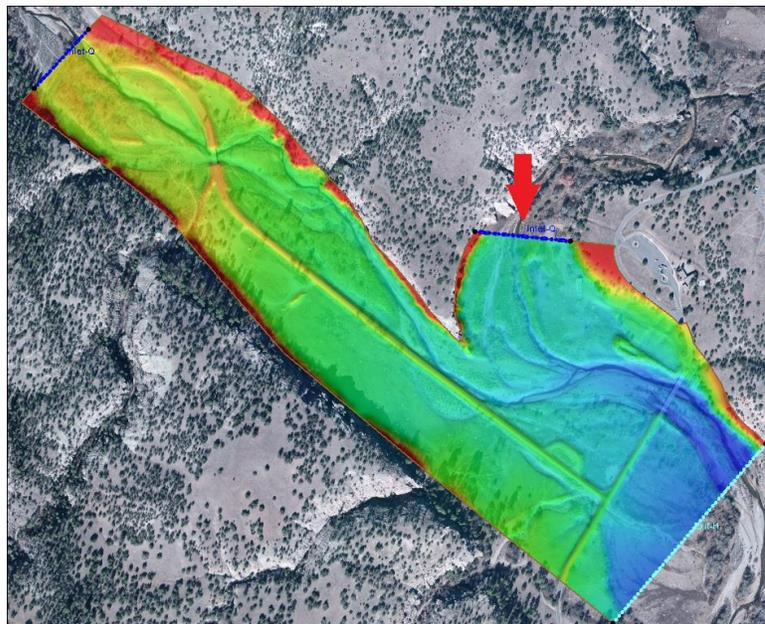

Figure 2 Inflow boundary condition
3. Use the **Select Feature Arc** tool and double-click on the Inlet-Q inflow boundary shown in Figure 2. This will open the *SRH-2D Linear BC* dialog.